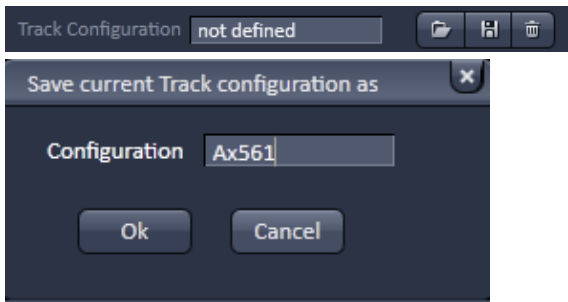

Fig. 46 Saving Configurations via the experiment Manager
- For storing a new track configuration click  of the **Track Configuration** and enter a desired name in the first line of the list box (Fig. 46), then click **Ok** to store the configuration.